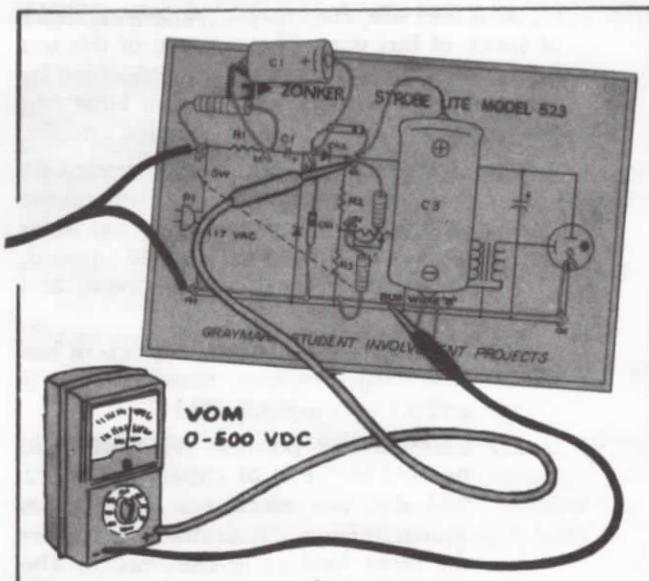

FIG. 23
- _____ i. With the clip lead or wire removed from pins 2 and 3, reconnect the anode lead of diode CR1 to bus wire B. (Refer to Figure 23.)